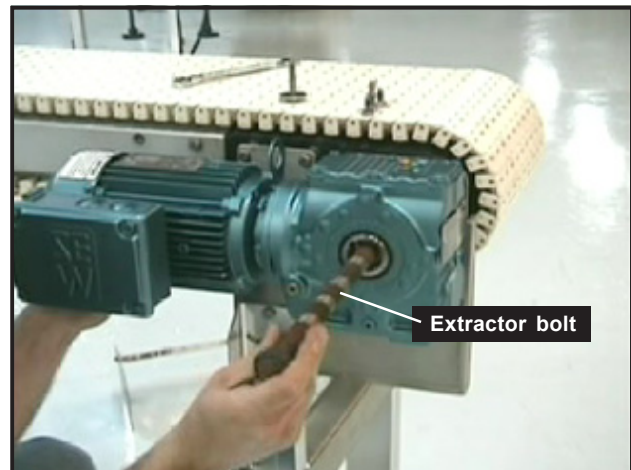

Figure 43: Insert extractor bolt to drive gearbox off shaft
- If the gearbox will not slide off, insert extractor bolt into the gearbox extractor, located at the end of the drive shaft (*Figure 43*).